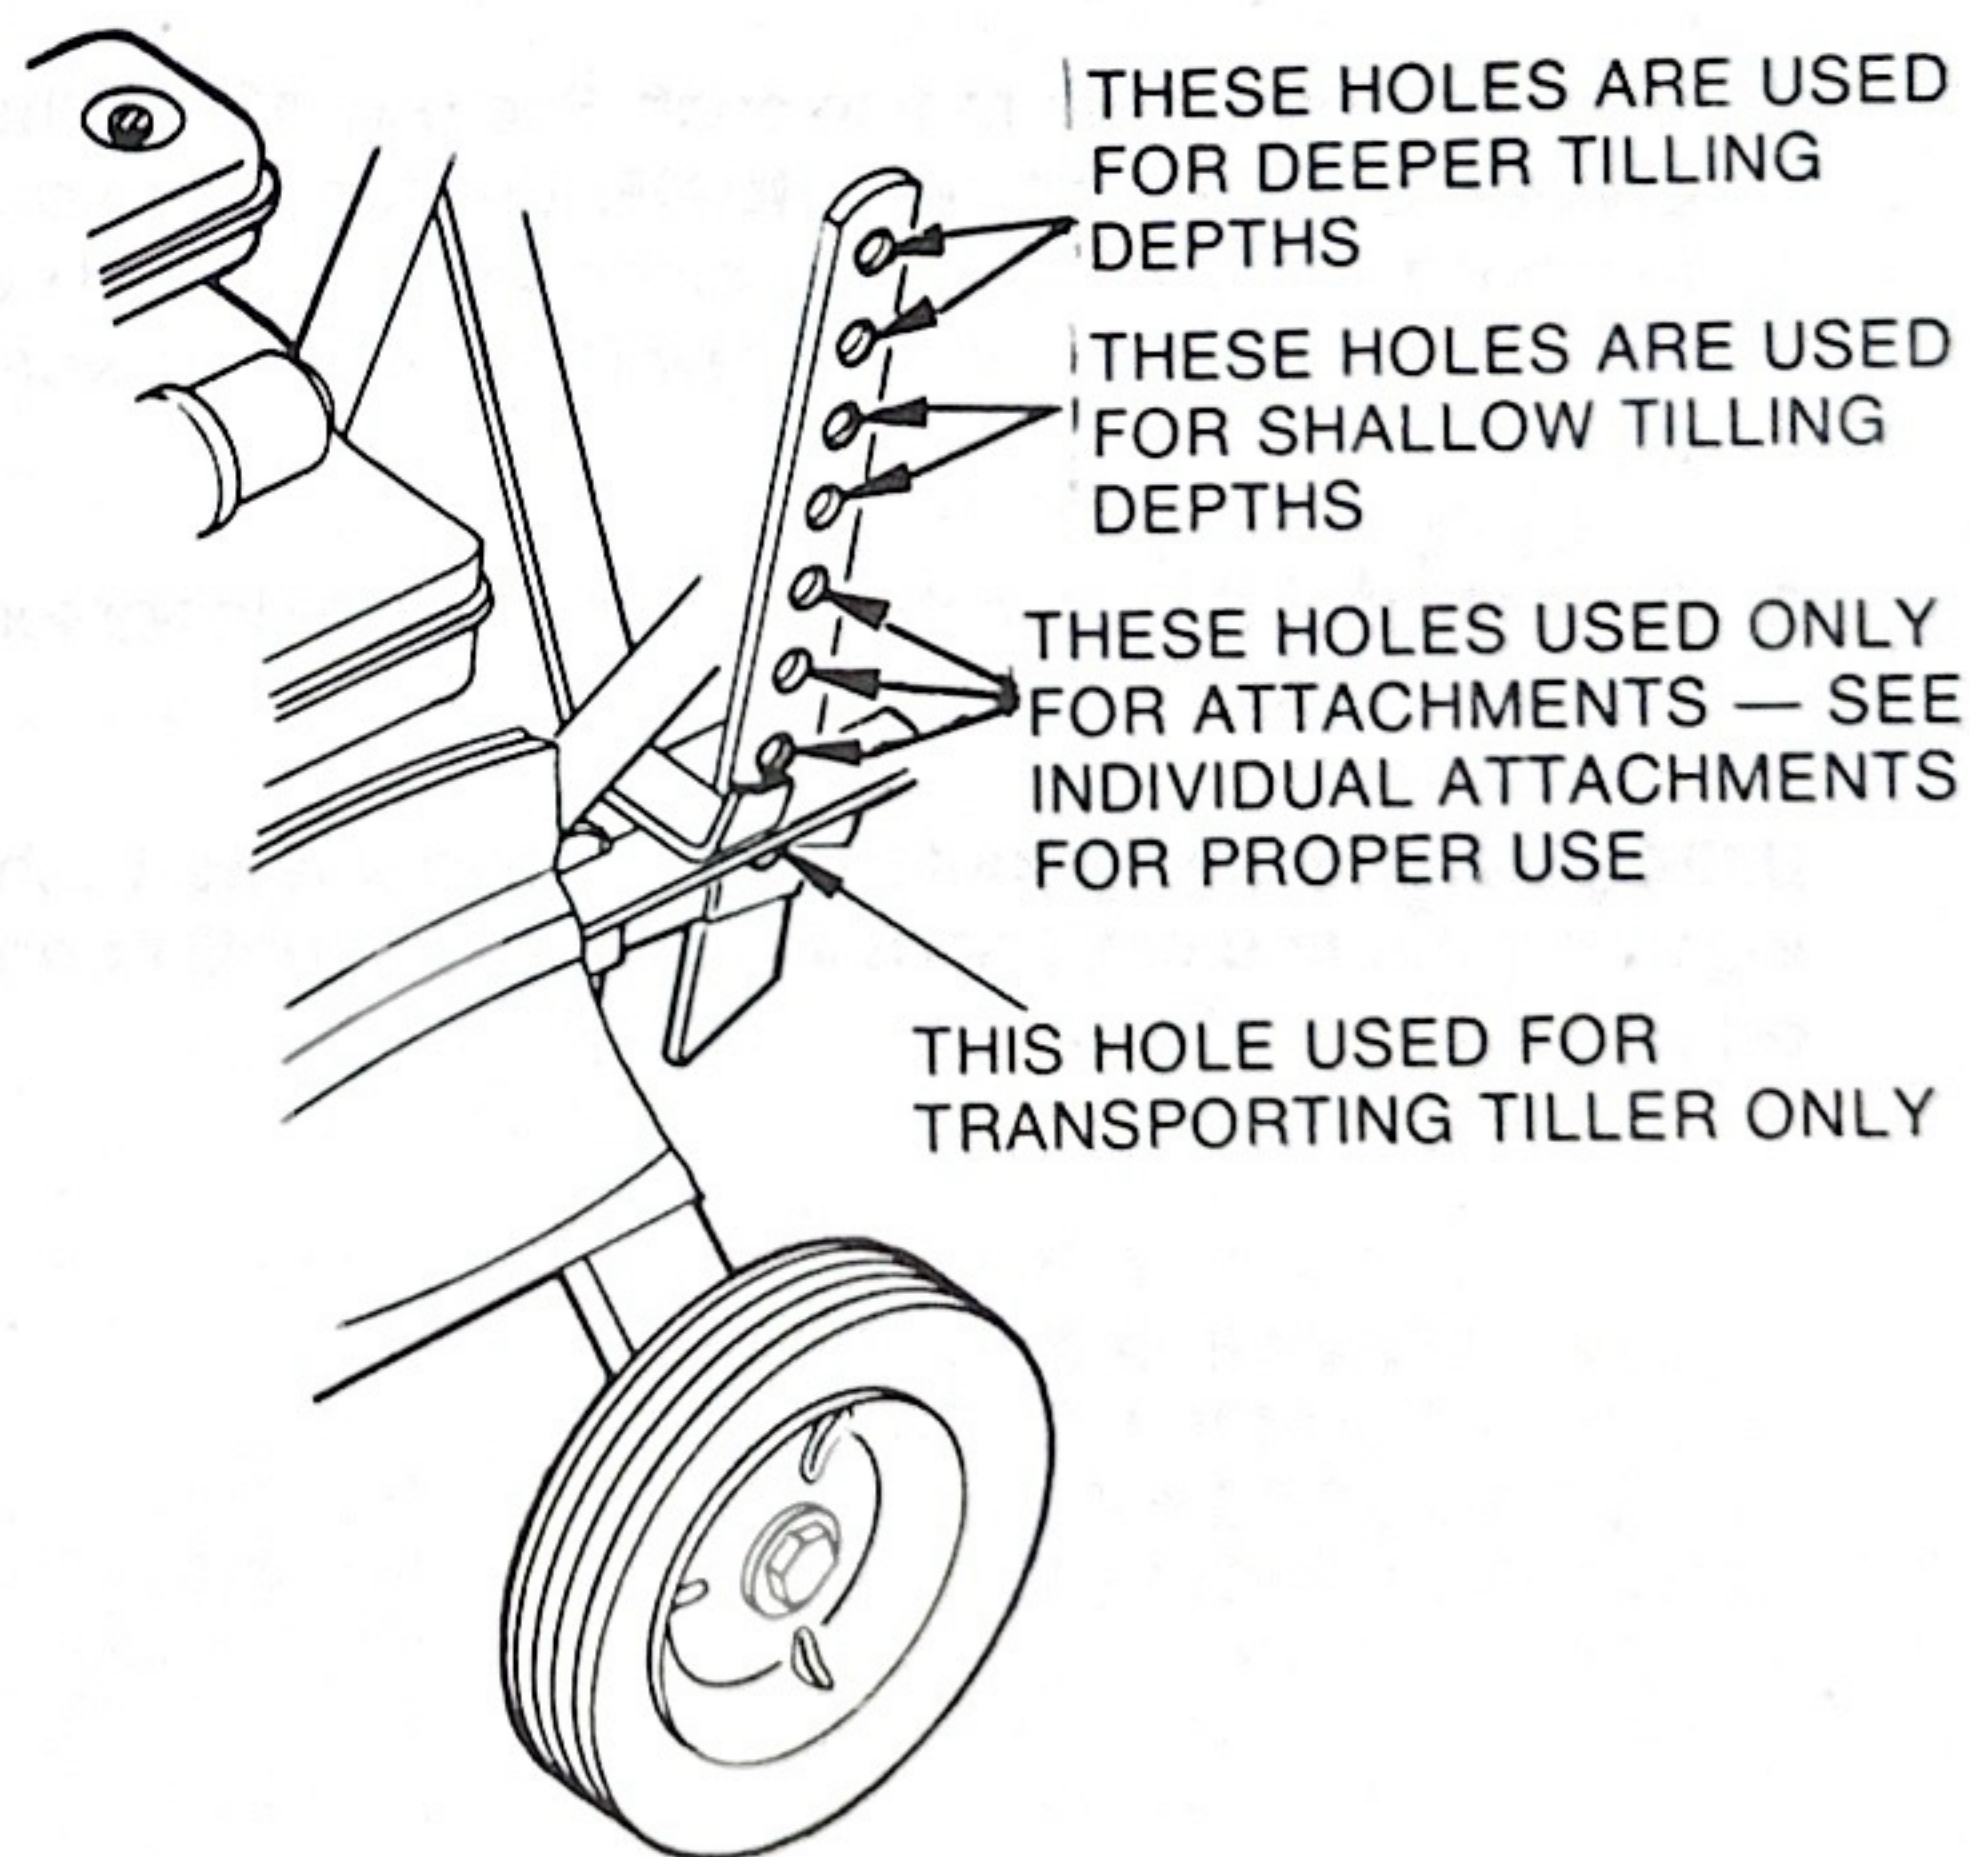

FIG. 10
The depth control regulates the tilling depth and forward speed of the tiller. It has four (4) different depth positions, Fig. 10.